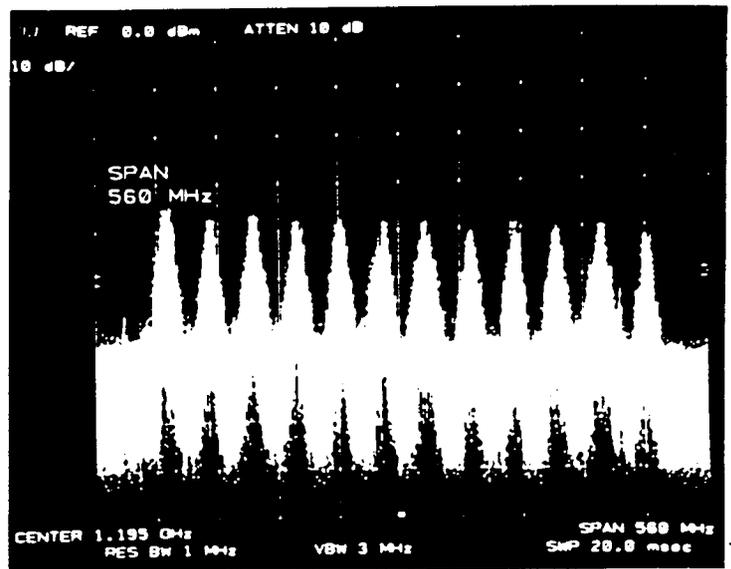

Figure 6. Optimum Polarization Setting
2.10 Figure 6 illustrates full minimizing of the alternate signals; the desired result.